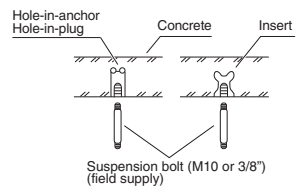

Fig. 3-3
- Insert suspension bolts as shown in Fig. 3-3 or
- (2) Screw in the suspension bolts allowing them to protrude from the ceiling as shown in Fig. 3-3. (Cut the ceiling material, if necessary.)